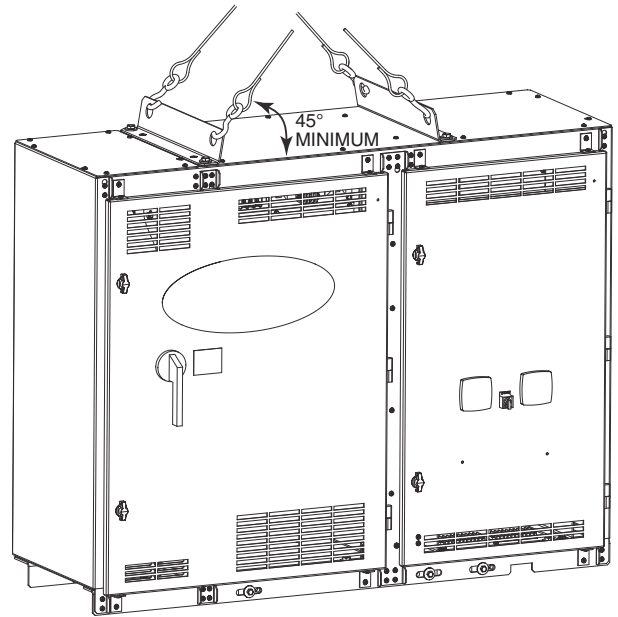

Fig. 7 — 442A and 608A LF2 VFD Enclosure Lifting Points
3. Rig the control center and remove the bolts that secure it to the VFD mounting brackets on the condenser. See Fig. 7.